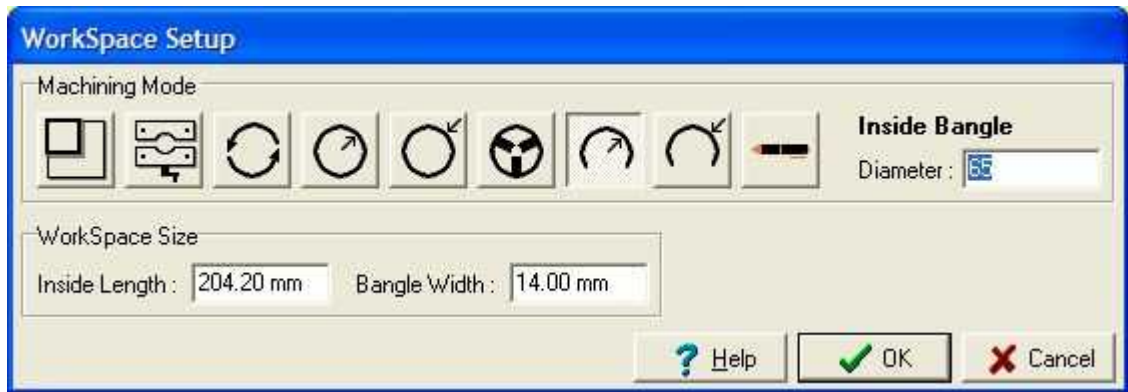

Figure 1
- 1 Select the correct Mode from the dialogue box, see Figure 1.